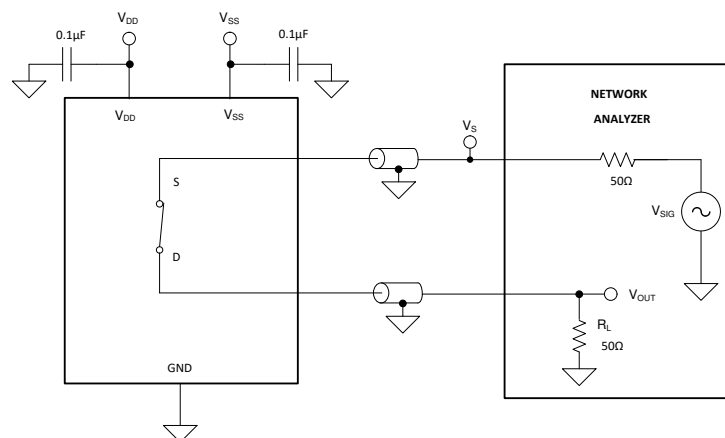

**Figure 7-9. Crosstalk Measurement Setup**
Crosstalk is defined as the ratio of the signal at the drain pin (D) of a different channel, when a signal is applied at the source pin (Sx) of an on-channel. Figure 7-9 shows the setup used to measure, and the equation used to compute crosstalk.